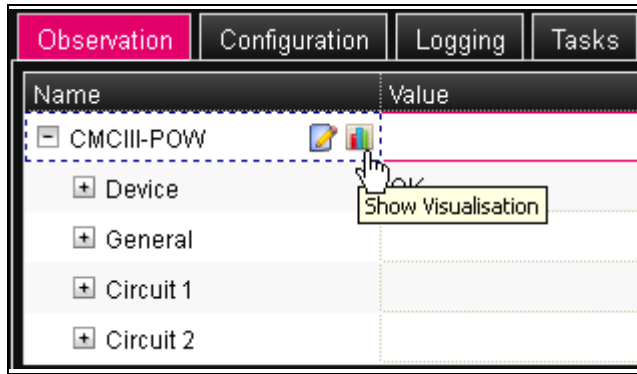

Fig. 37: "Graphic" icon
- Click the coloured "graphic" icon suffixed to the "CMCIII-POW" entry in the form of a stylised chart (fig. 37).